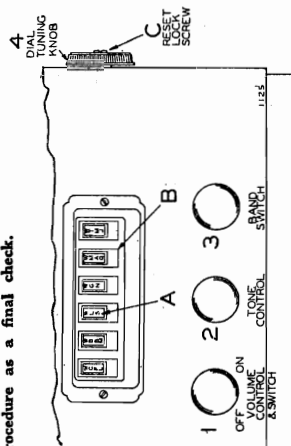

FIG. 2
There are six pushbuttons on the front of the radio by means of which six stations may be selected (see "B," Fig. 2).
3. On the front of each automatic tuner button an opening is provided for inserting the call letter tabs. (See "A," Fig. 2.)
8. Now rotate the tuning knob to the right (clockwise) as far as it will turn, and with a coin (quarter), tighten the special locking screw ("C") in the center of the tuning knob, (see Fig. 2).